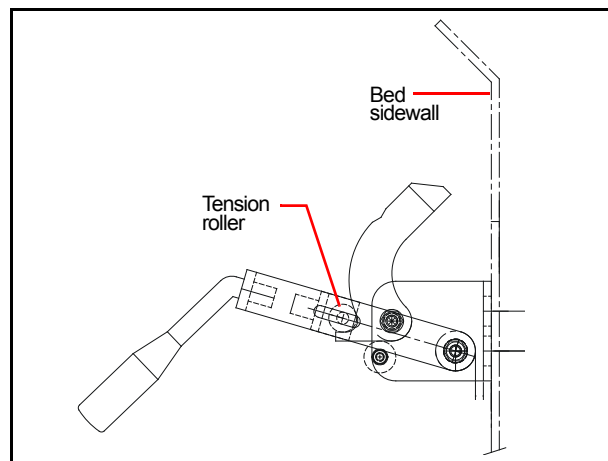

Figure 4-13 Prism in Disengaged Position
3. Pivot the clamping lever to the horizontal position as shown in Figure 4-13.